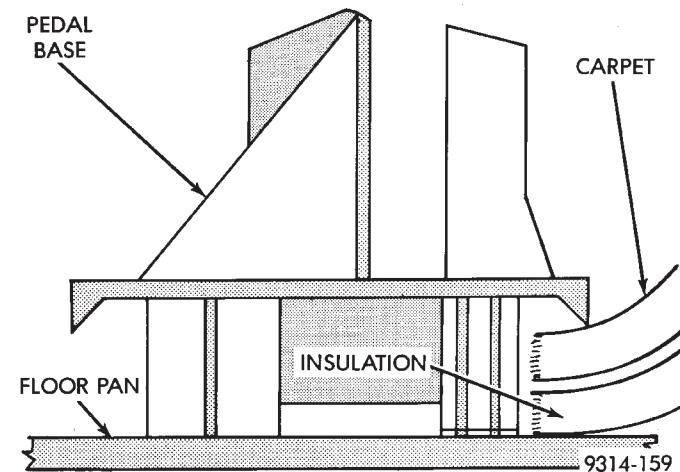

Fig. 32 Carpet and Insulation Placement
(1) Position accelerator pedal assembly over studs onto dash panel. Ensure carpet and insulation are trapped between the lip of the pedal base and the floor pan (Fig. 32). Install mounting nuts and tighten to 12 N·m (105 in. lbs.) torque.
(2) From inside the vehicle, hold up the pedal and install the throttle cable and cable retainer in the upper end of the pedal shaft.
(3) From the engine compartment, hold the throttle body lever in the wide open position and install the throttle cable.